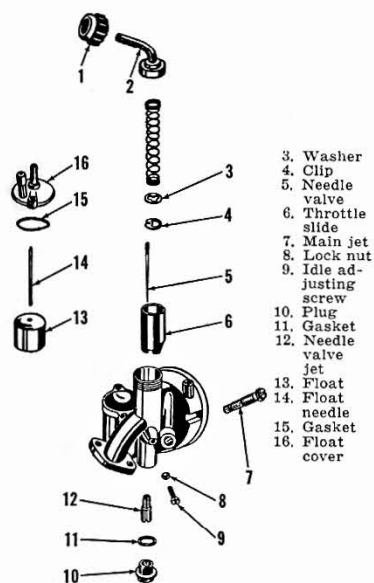

Fig. A1-1—Exploded view of Bing 1/12 carburetor.
CARBURETOR. Mo-Ped 50 models use a Bing 1/12 carburetor shown in Fig. A1-1. Main jet (7) is usually size 62; however, for better fuel economy, size 60 main jet may be installed. Needle valve clip (4) should be installed in second groove from top of needle (5). Make certain washer (3) is installed. Idle speed screw (9) should be locked by nut (8).